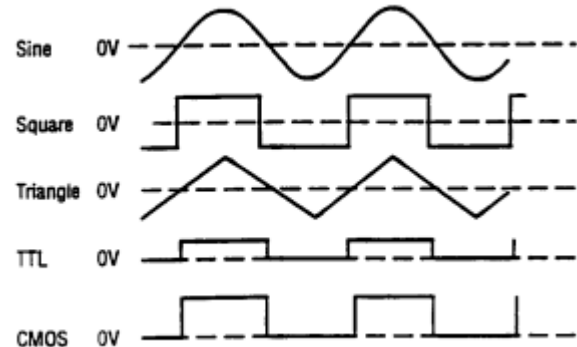

Figure 2. Output Waveform and Phase Relationship
1. Initially, verify that the **DUTY CYCLE** (2), **CMOS LEVEL** (3), **DC OFFSET** (4), **-20dB** (5), and **SWEEP EXT/INT** (22), and **AM/FM** (35) switches are in the released position. This will produce a symmetrical waveform unaffected by the sweep generator and other controls.
2. Plug the unit into an appropriate power source and turn it on by depressing the **POWER** switch (1).
3. Select the desired waveform (**SINE**, **SQUARE**, or **TRIANGLE**) by depressing one of the **FUNCTION** switches (9). Phase relationships of the waveforms are shown in Fig. 2.
4. Select the frequency of the waveform by depressing one of the **RANGE** switches (6). The output frequency is displayed, along with the appropriate measurement units. **KHz** or **Hz** (31), on the LED display.
5. Rotate the **COARSE** (28) frequency control to quickly set the output frequency to the approximate desired value. The **FINE** (26) frequency control can then be used to easily set the output to the specific desired value. The frequency selected is available at the **OUTPUT** jack (13). In addition, a digital signal, either **TTL** or **CMOS** is available at the **TTL/CMOS** jack (15) (refer to the “TTL/CMOS OUTPUT” section of this manual).